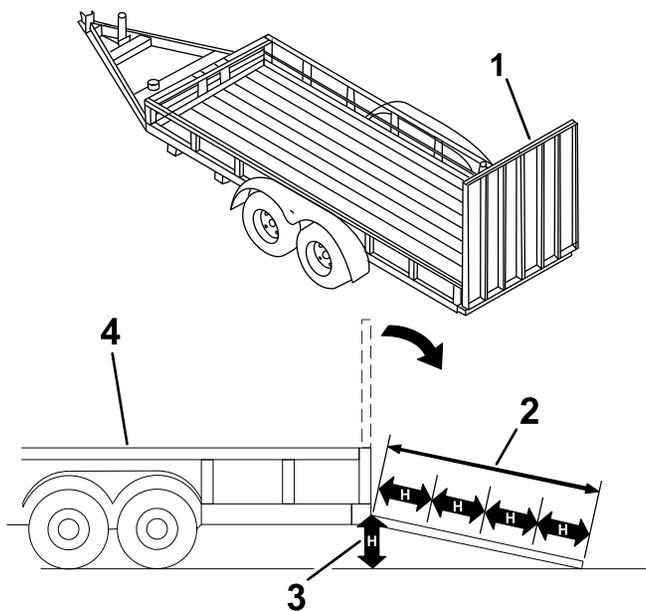

Figure 11
Loading a machine onto a trailer or truck increases the possibility of tip-over and could cause serious injury or death (Figure 11).
3. Lower the ramp (Figure 11).